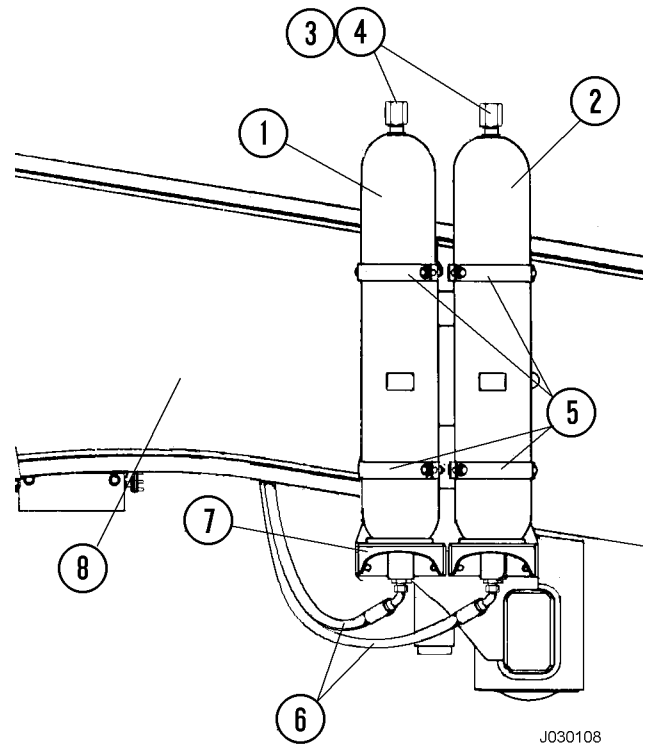

FIGURE 50-15. BRAKE SYSTEM
5. Remove protective cover (3, Figure 50-15) from the charging valve guard on top of the accumulator.
7. Disconnect oil line (6) from the bottom hydraulic port. Cap the port and hose fitting to prevent contamination.
1. Position the accumulator on mounting bracket (7, Figure 50-15) with warning label visible.
3. Install oil line (6) at bottom (hydraulic) port.
5. Install protective cover (3) over charging valve on top of accumulator.